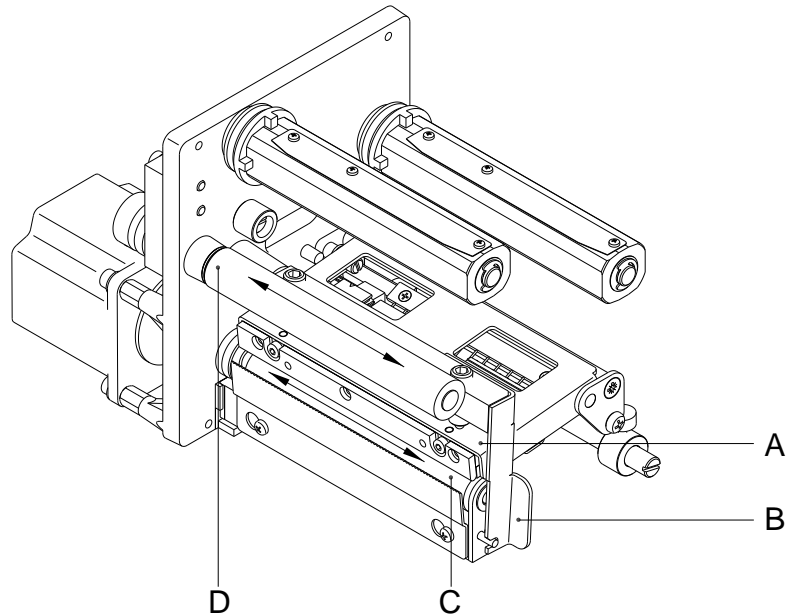

Figure 13
2. Turn the red lever (B, in Figure 13) counter clockwise to lift up the printhead.